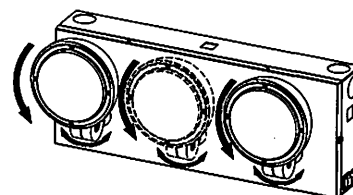

Fig 6
9. Adjust the lamp heads direction as per needs. (see Fig 6).